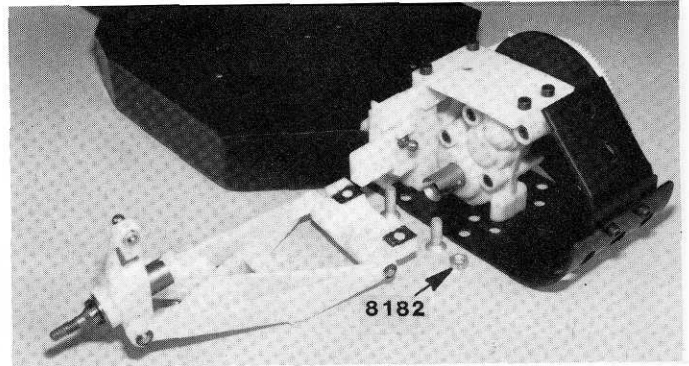

**Fig. 94**
□ **Figs. 94 & 95** Check the pin fit in the outer hole in the left hand A-arm with the #7357 pin. We want the hole tight in the hub carrier. Assemble the parts and secure with the #6299 E-clips. Do the right hand side.